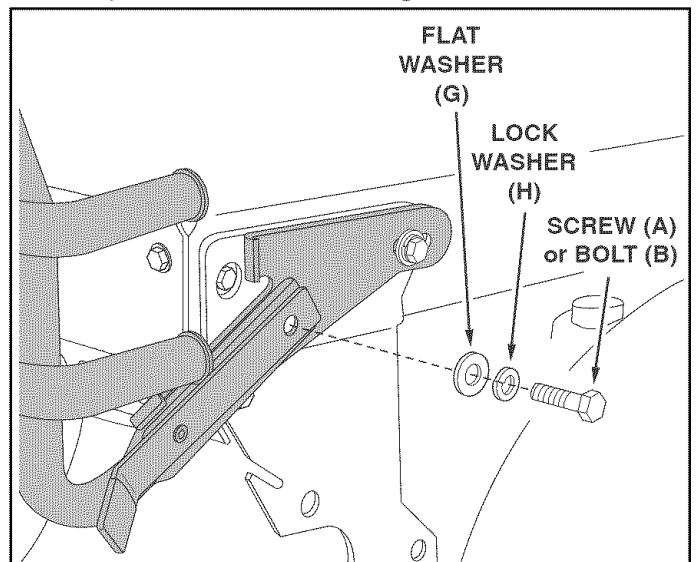

FIGURE 6
**STEP 6: (SEE FIGURE 6)**
3. Fasten locking lever and bumper to mounting bracket using a screw (A) or bolt (B), a lock washer (H) and a flat washer (G). Use screw (A) for LT tractors and bolt (B) for GT tractors. Assemble screw or bolt through pivot spacer in rear hole in bumper and into tractor frame. **Tighten.** Repeat for other side.
**NOTE:** If hole in (LT) tractor frame is not threaded, push in while turning screw (A) to create threads in hole.